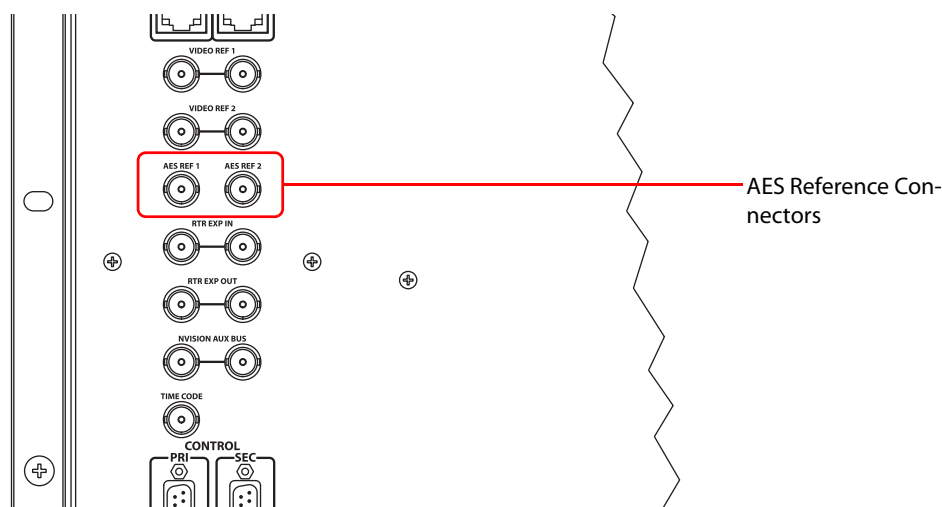

Fig. 2-22: AES Reference connection (Rear View)
- 1 Locate the AES reference connections on the rear of the router, as shown in Figure 2-22. AES reference connections are labeled **AES REF 1** and **AES REF 2**.